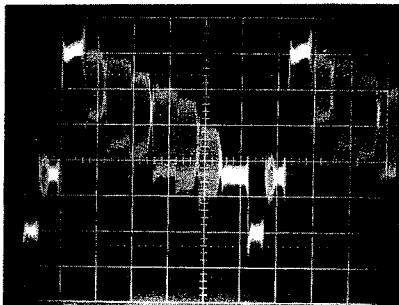

Fig. 27
- Adjust the amplitude of the signal on TP454 to  $1.0 \pm 0.05$  Vp-p. (when terminated with 75 ohm or  $2.0 \pm 0.1$  Vp-p. when unterminated) with R321 in the luminance section of PV01. (Fig. 27)